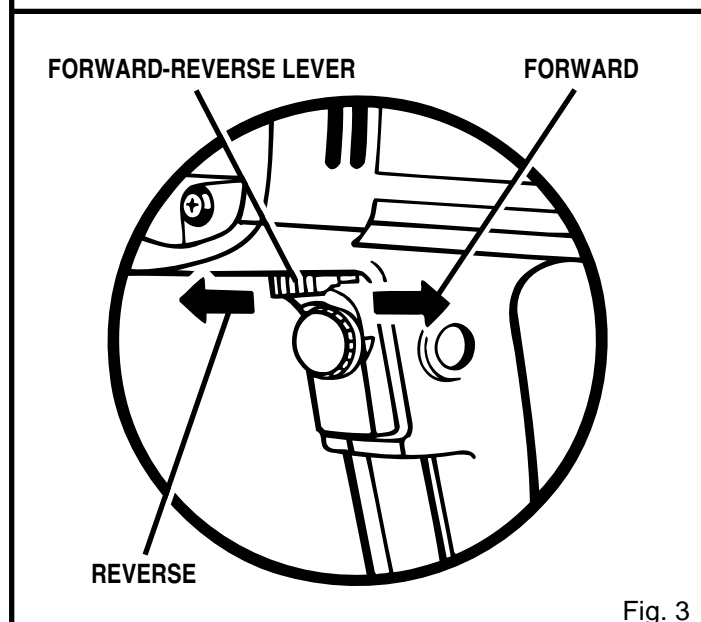

Fig. 3
See Figure 3.
2. Check the direction of rotation lever for correct setting (forward or reverse). See Figure 3, Page 6.